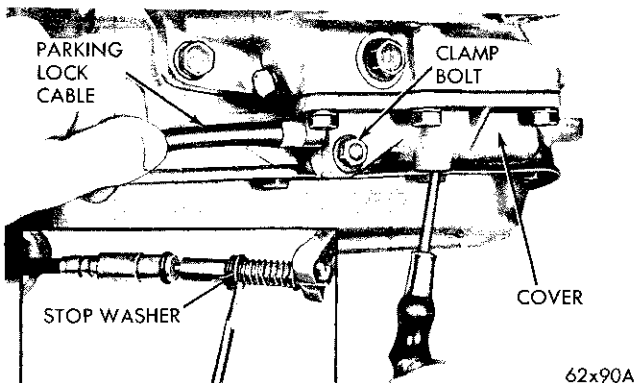

Fig. 21—Installing Parking Lock Cable
(1) Place the selector lever in the NEUTRAL position.
(2) Insert a screw driver through the plug opening and position it behind the cable adapter stop washer (Fig. 21). Hold the adapter outward while pushing the cable in as far as possible, making sure the lock-spring engages the cable.
(3) Gently pull outward on the cable housing to its limit of travel, release and then tighten the clamp bolt to 10 inch-pounds torque. **Do not use pliers or similar tool to pull outward on the cable as the cable cover might be damaged causing an oil leak.**